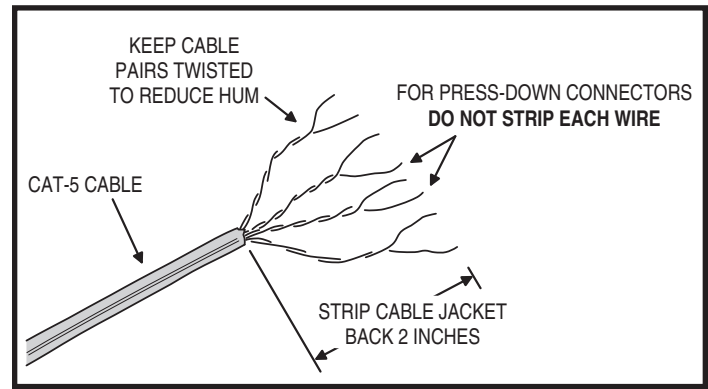

Figure 10. Cat-5 Cable Preparation for Press-on Connectors
2. Strip back the outer insulation jacket of the room and Patio Station Cat-5 cables 2 inches to expose the four color coded twisted wire pairs inside (see Figure 10). **DO NOT STRIP THE INDIVIDUAL TWISTED PAIRS OF WIRE.** The connectors have internal sharp edge insulation displacement wire guides that cut through the insulation on the copper wires when the connector's wire latches are snapped closed.